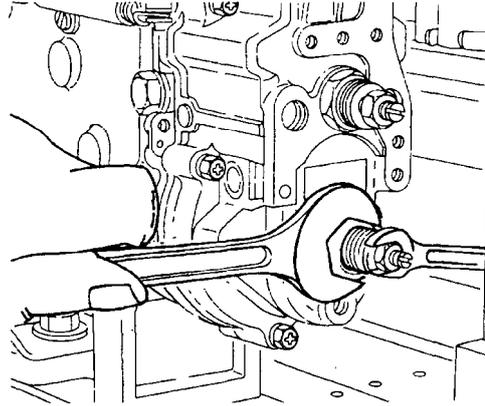

Figure 118 Outer Idling Spring Adjustment
- n. Set the pump speed to 220 , install the idling spring capsule with a new gasket and screw the capsule in (Figure 118) until the control rack is at approximately 9.5 mm. Hold the idling spring capsule in this position and tighten the locknut to 18 to 22 N.m (13 to 16 lbf.ft). The outer idling spring is now set.